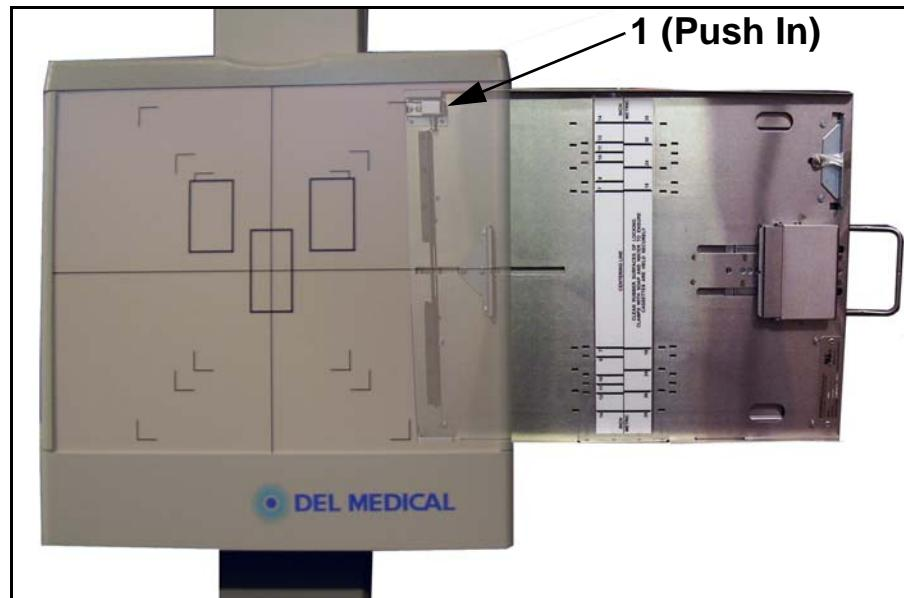

Figure 6-18. Cassette Tray Removal
- 2 While firmly pressing on limit button (1 in Figure 6-18), pull the cassette tray completely out of the bucky.